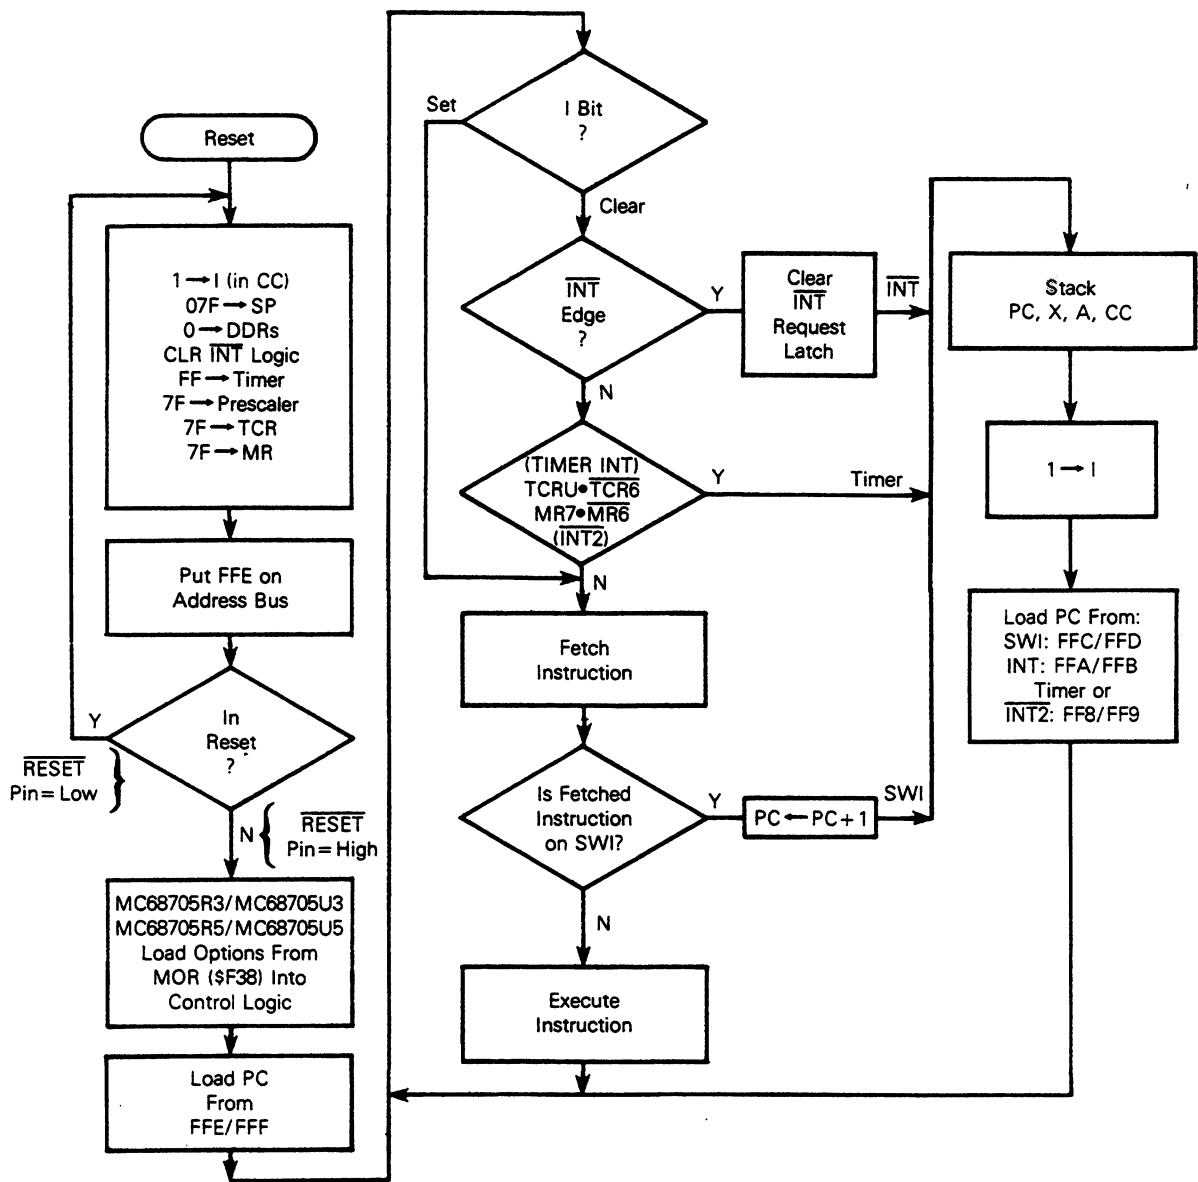

Figure 7-7. Reset and Interrupt Processing Flowchart
The microcomputers can be interrupted four different ways: through the external interrupt (\overline{INT}) input pin, the internal timer interrupt request, the external port D bit 6 ($\overline{INT2}$) input pin, or the software interrupt instruction (SWI). When any interrupt occurs: the current instruction (including SWI) is completed, processing is suspended, the present CPU state is pushed onto the stack, the interrupt bit (I) in the condition code register is set, the address of the interrupt routine is obtained from the appropriate interrupt vector address, and the interrupt routine is executed. Stacking the CPU register, setting the I bit, and vector fetching require a total of 11 t_{CYC} periods for completion. A flowchart of the interrupt sequence is shown in Figure 7-7. The interrupt service routine must end with a return from interrupt (RTI) instruction which allows the MCU to resume processing of the